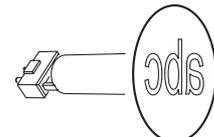

Figure 23. Correct gobo orientation
**Correct gobo orientation is critical. Read the guidelines in Figure 23 carefully before installing a gobo.**
5. Insert the new gobo in the holder with the side that must face towards the lamp facing upwards, towards the spring (see Figure 22 and Figure 23).
The orientations shown in Figure 23 are correct in most cases, but consult your Martin dealer or gobo supplier if you are in any doubt about the orientation of a specific gobo type. To minimize the risk of heat damage, priority must be given to installing gobos with their more reflective sides facing the lamp.